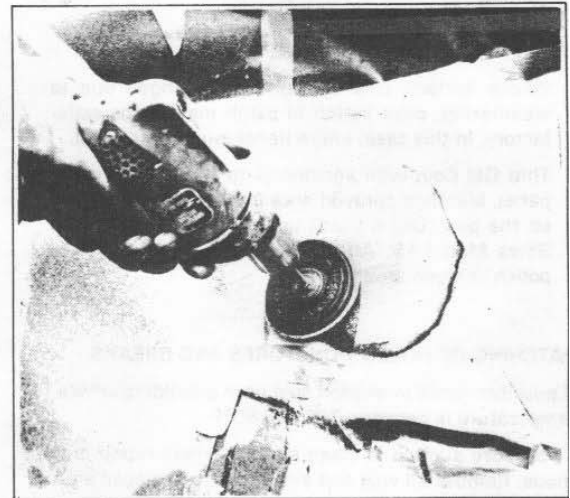

Figure 2-78. Bleeding Patch with Sander
10. Allow the patch to cure overnight; then sand with dry 80-grit paper on power sander. Smooth the patch and blend it with surrounding surface. If air pockets are present, puncture and fill with catalyzed resin. Let cure and resand. See Figure 2-78.